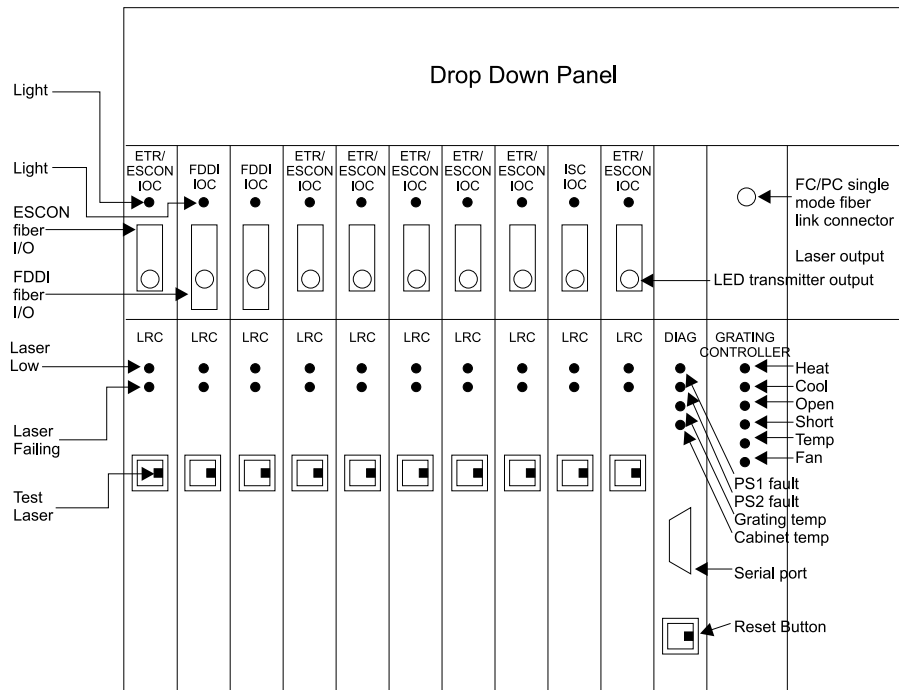

Figure 1. 9729 Front Panel Reference
Refer to Figure 1 for the location of the indicators, switches, and connectors on the front panel.
This card, while not shown in Figure 1 on page 2, can be found on some machines.
This feature, not shown in Figure 1 on page 2, may be installed on this machine.
- 2 Open the front door, remove the two screws at the top of the dropdown panel (see Figure 1 on page 2 for the location of the dropdown panel), and lower the panel. Keep the screws for future use.